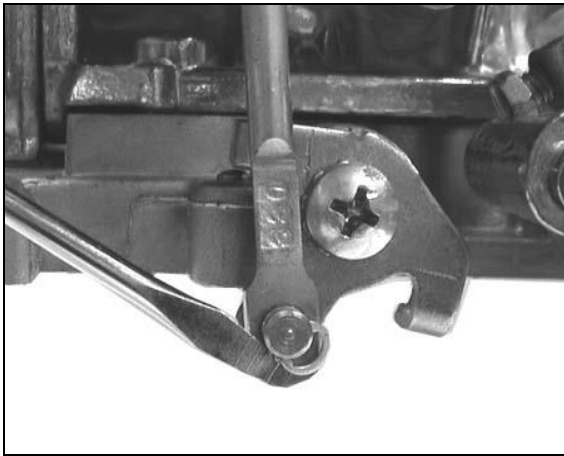

Figure 17
- Remove the clip retaining the diaphragm plunger to the secondary throttle lever using a small flat-blade screwdriver (Figure 17).